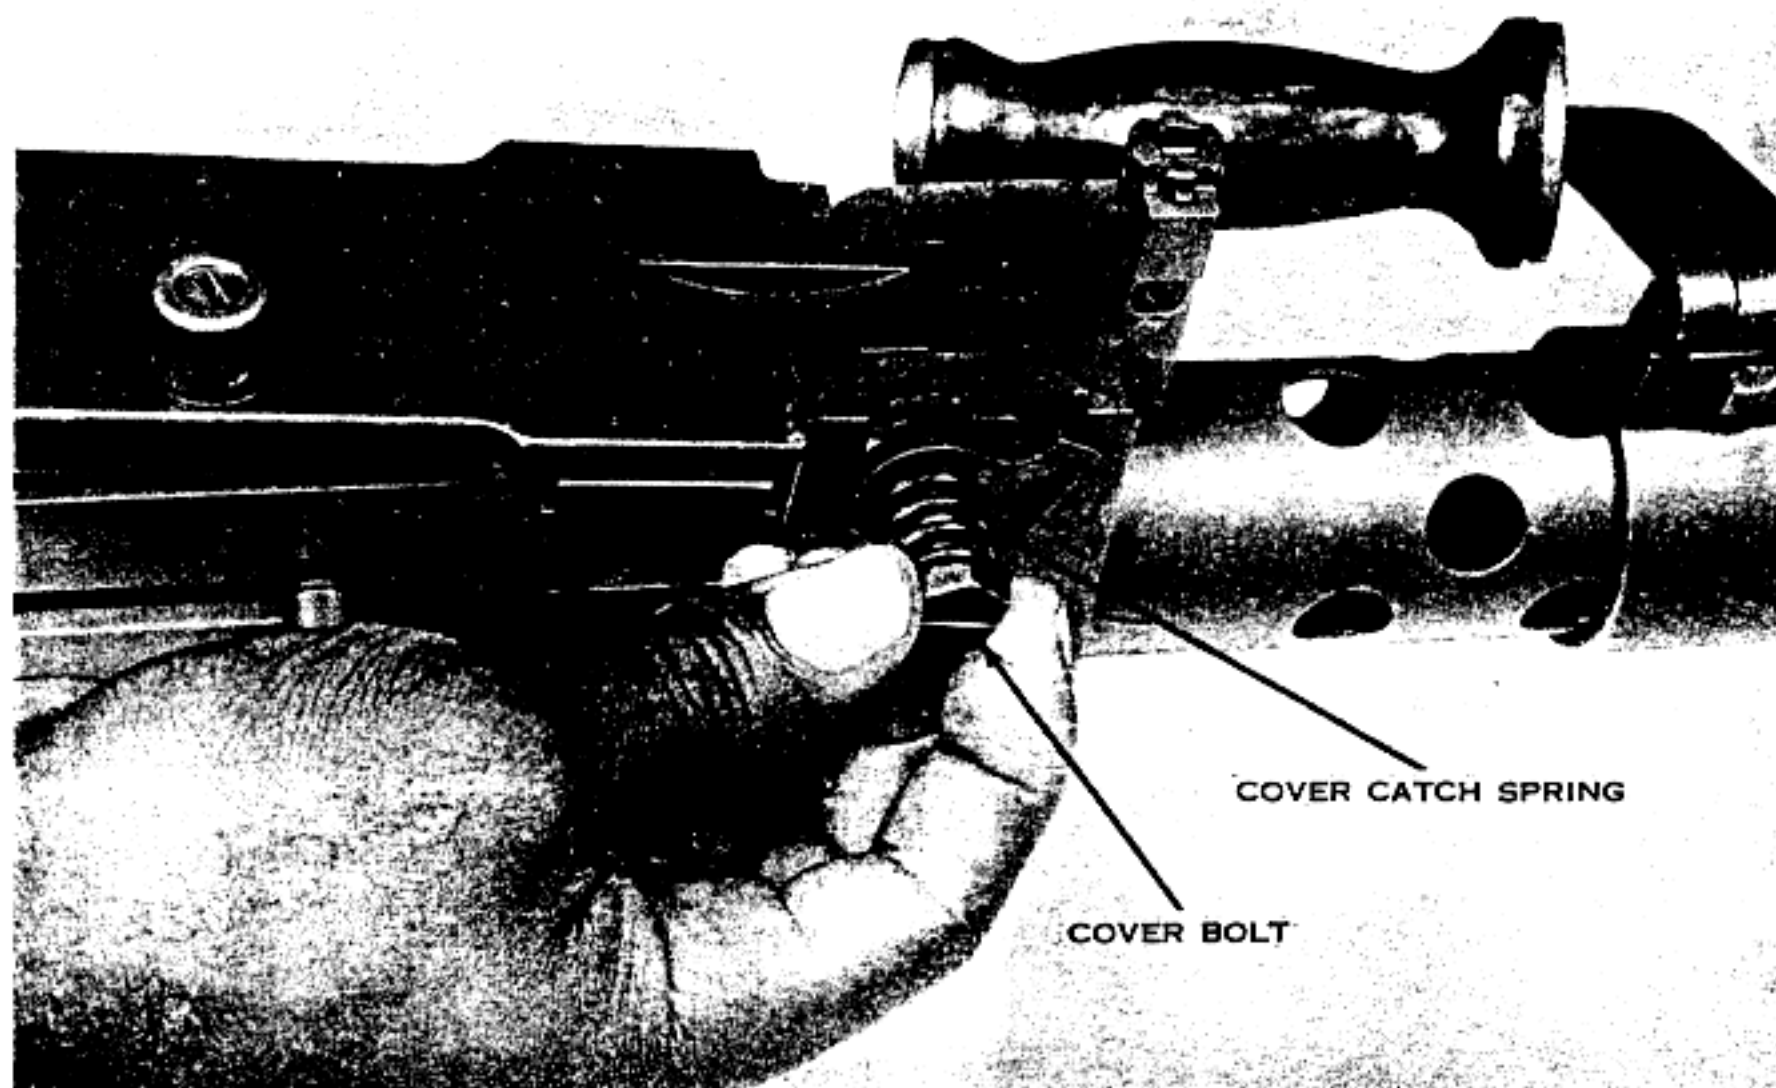

Figure 23. Removing cover bolt.
- (2) Remove the cover bolt (fig. 23), cover catch spring, the fixed and movable plates, and the cover. To prevent undue wear, the cover should not be removed except when necessary for cleaning or replacement of parts.